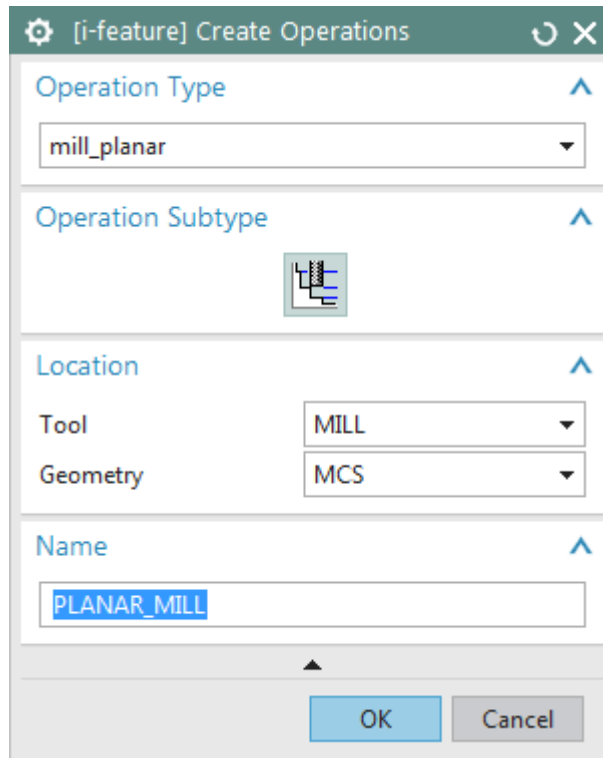

Figure 3.2. The “i-feature Create Operations” window
- the “i-feature Create Operations” window (Figure 3.2)